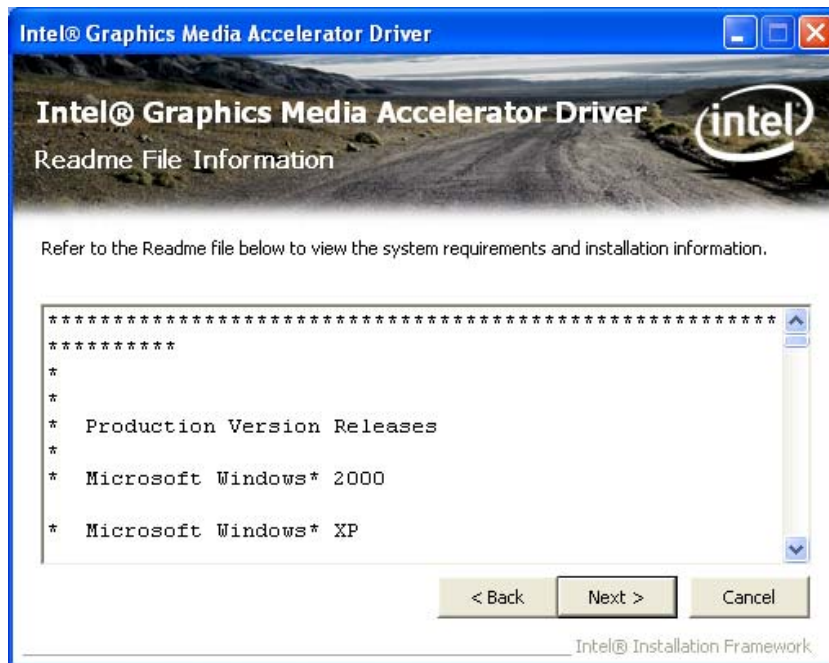

Figure 6-11: VGA Driver Read Me File
Step 11: The Read Me file in Figure 6-11 appears.